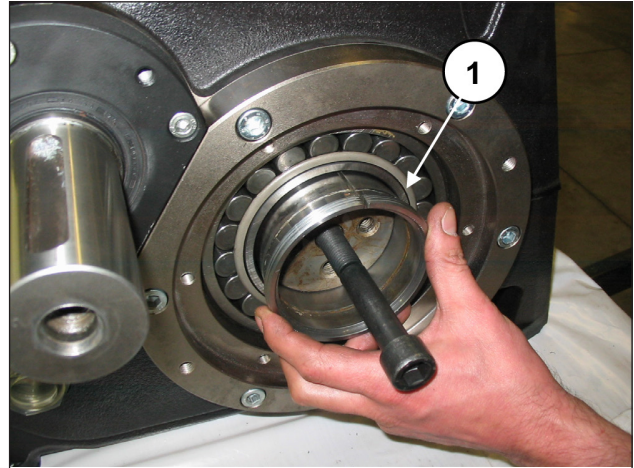

Fig. 76
Partly insert the two pressure bushes, keeping the bend shaft lifted up by means of the previously-mounted M16 pin (pos. ①, Fig. 76).